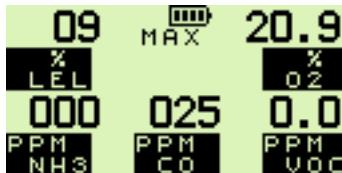

Fig. 2.13 Maximum Gas Values
The example shown in Fig. 2.13 illustrates the maximum gas values stored in a five gas instrument: LEL, Oxygen (O2), Volatile Organic Compounds (VOC), Carbon Monoxide (CO) and Ammonia.